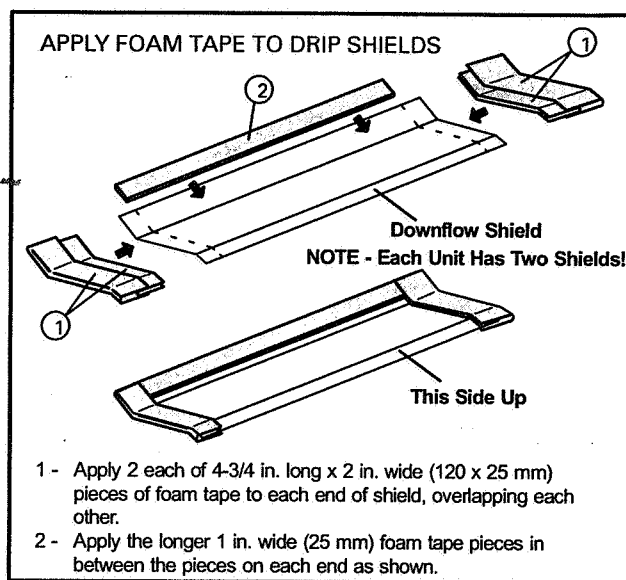

FIGURE 8
- 5 - Apply foam tape to drip shields as shown in figure 8.